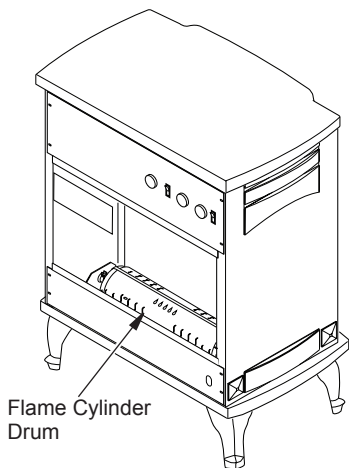

Figure 7 - Flame Cylinder Drum Location
2. Locate flame generation cylindrical drum (see Figure 7). It is constructed of two removable halves; either of which can be removed from the unit.